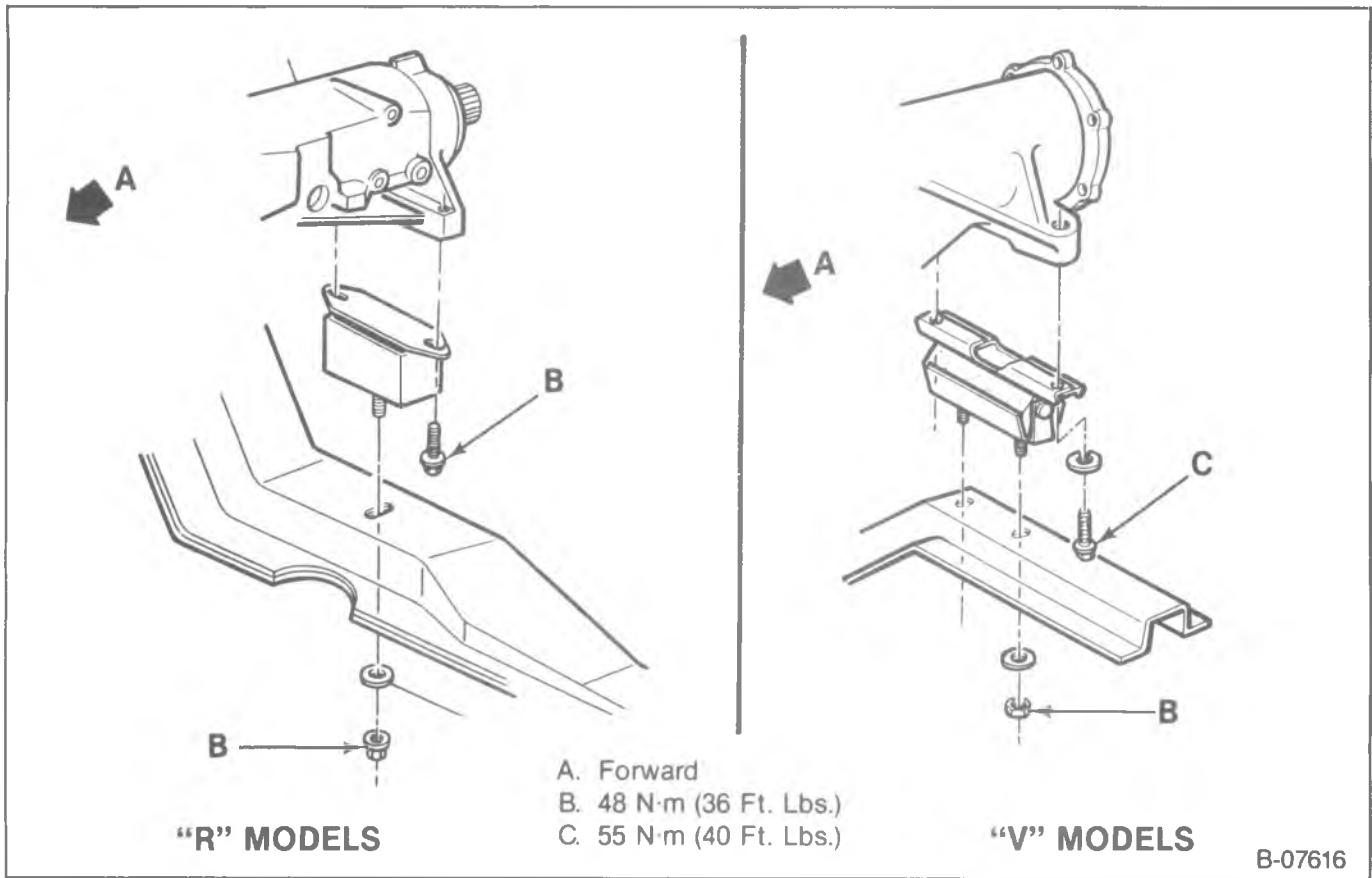

Figure 38—Rear Engine Mounting (R and V Models)
Remove or Disconnect (Figures 38 and 39)
Install or Connect (Figures 38 and 39)
- Fasteners to specifications. Refer to figures 38 and 39.